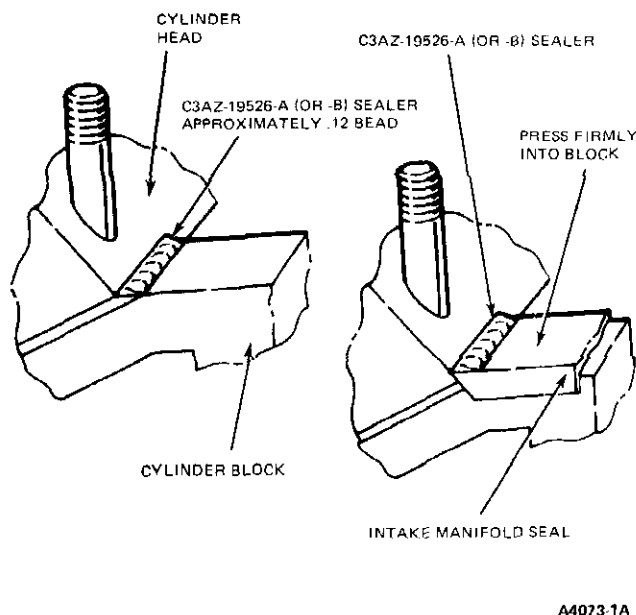
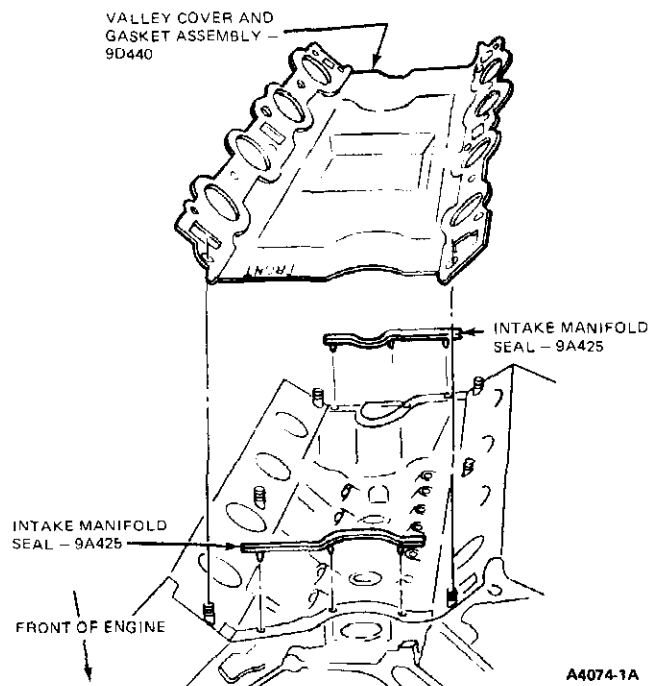

FIG. 14 Sealing Intake Manifold with RTV Sealer
FIG. 15 Installing Intake Manifold Gaskets and End Seals
12. Remove and discard intake manifold gaskets and seals. (See Fig. 15.)
3. Apply a 1/8 inch diameter bead of silicone rubber sealer in and along the joint, the full width of the cylinder block seal mounting surface (4 corners) as shown in Fig. 14.
4. Install the cylinder head to manifold gaskets and valley baffle assembly (Fig. 15), and the front and rear intake manifold to cylinder block seals. Apply a 1/16 inch bead of sealer at the outer end of each intake manifold seal for the full width of the seal (Fig. 14).